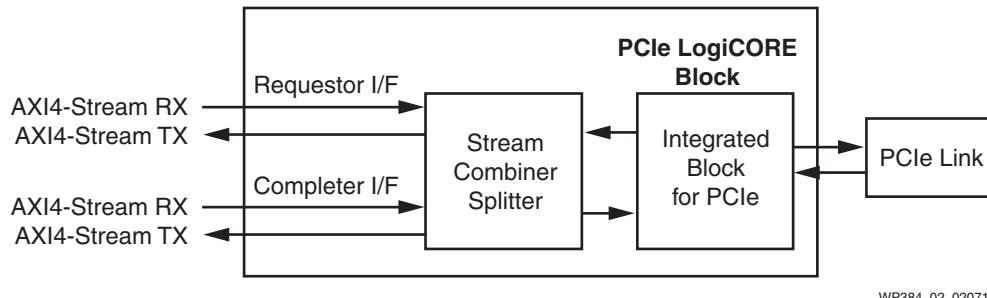

Figure 2: Enhanced AXI4-Stream Interface
2. Enhanced AXI4-Stream: This interface is similar to the basic AXI4-Stream interface but expands on it by splitting/combining the data stream into Completer and Requester streams. The enhanced version also allows for optional features such as packet destraddling, data realignment, and completion tag management. This interface is available on Virtex-7 XT FPGAs (not available on Virtex-7 T, Artix-7, and Kintex-7 devices) for PCI Express solutions. See Figure 2.